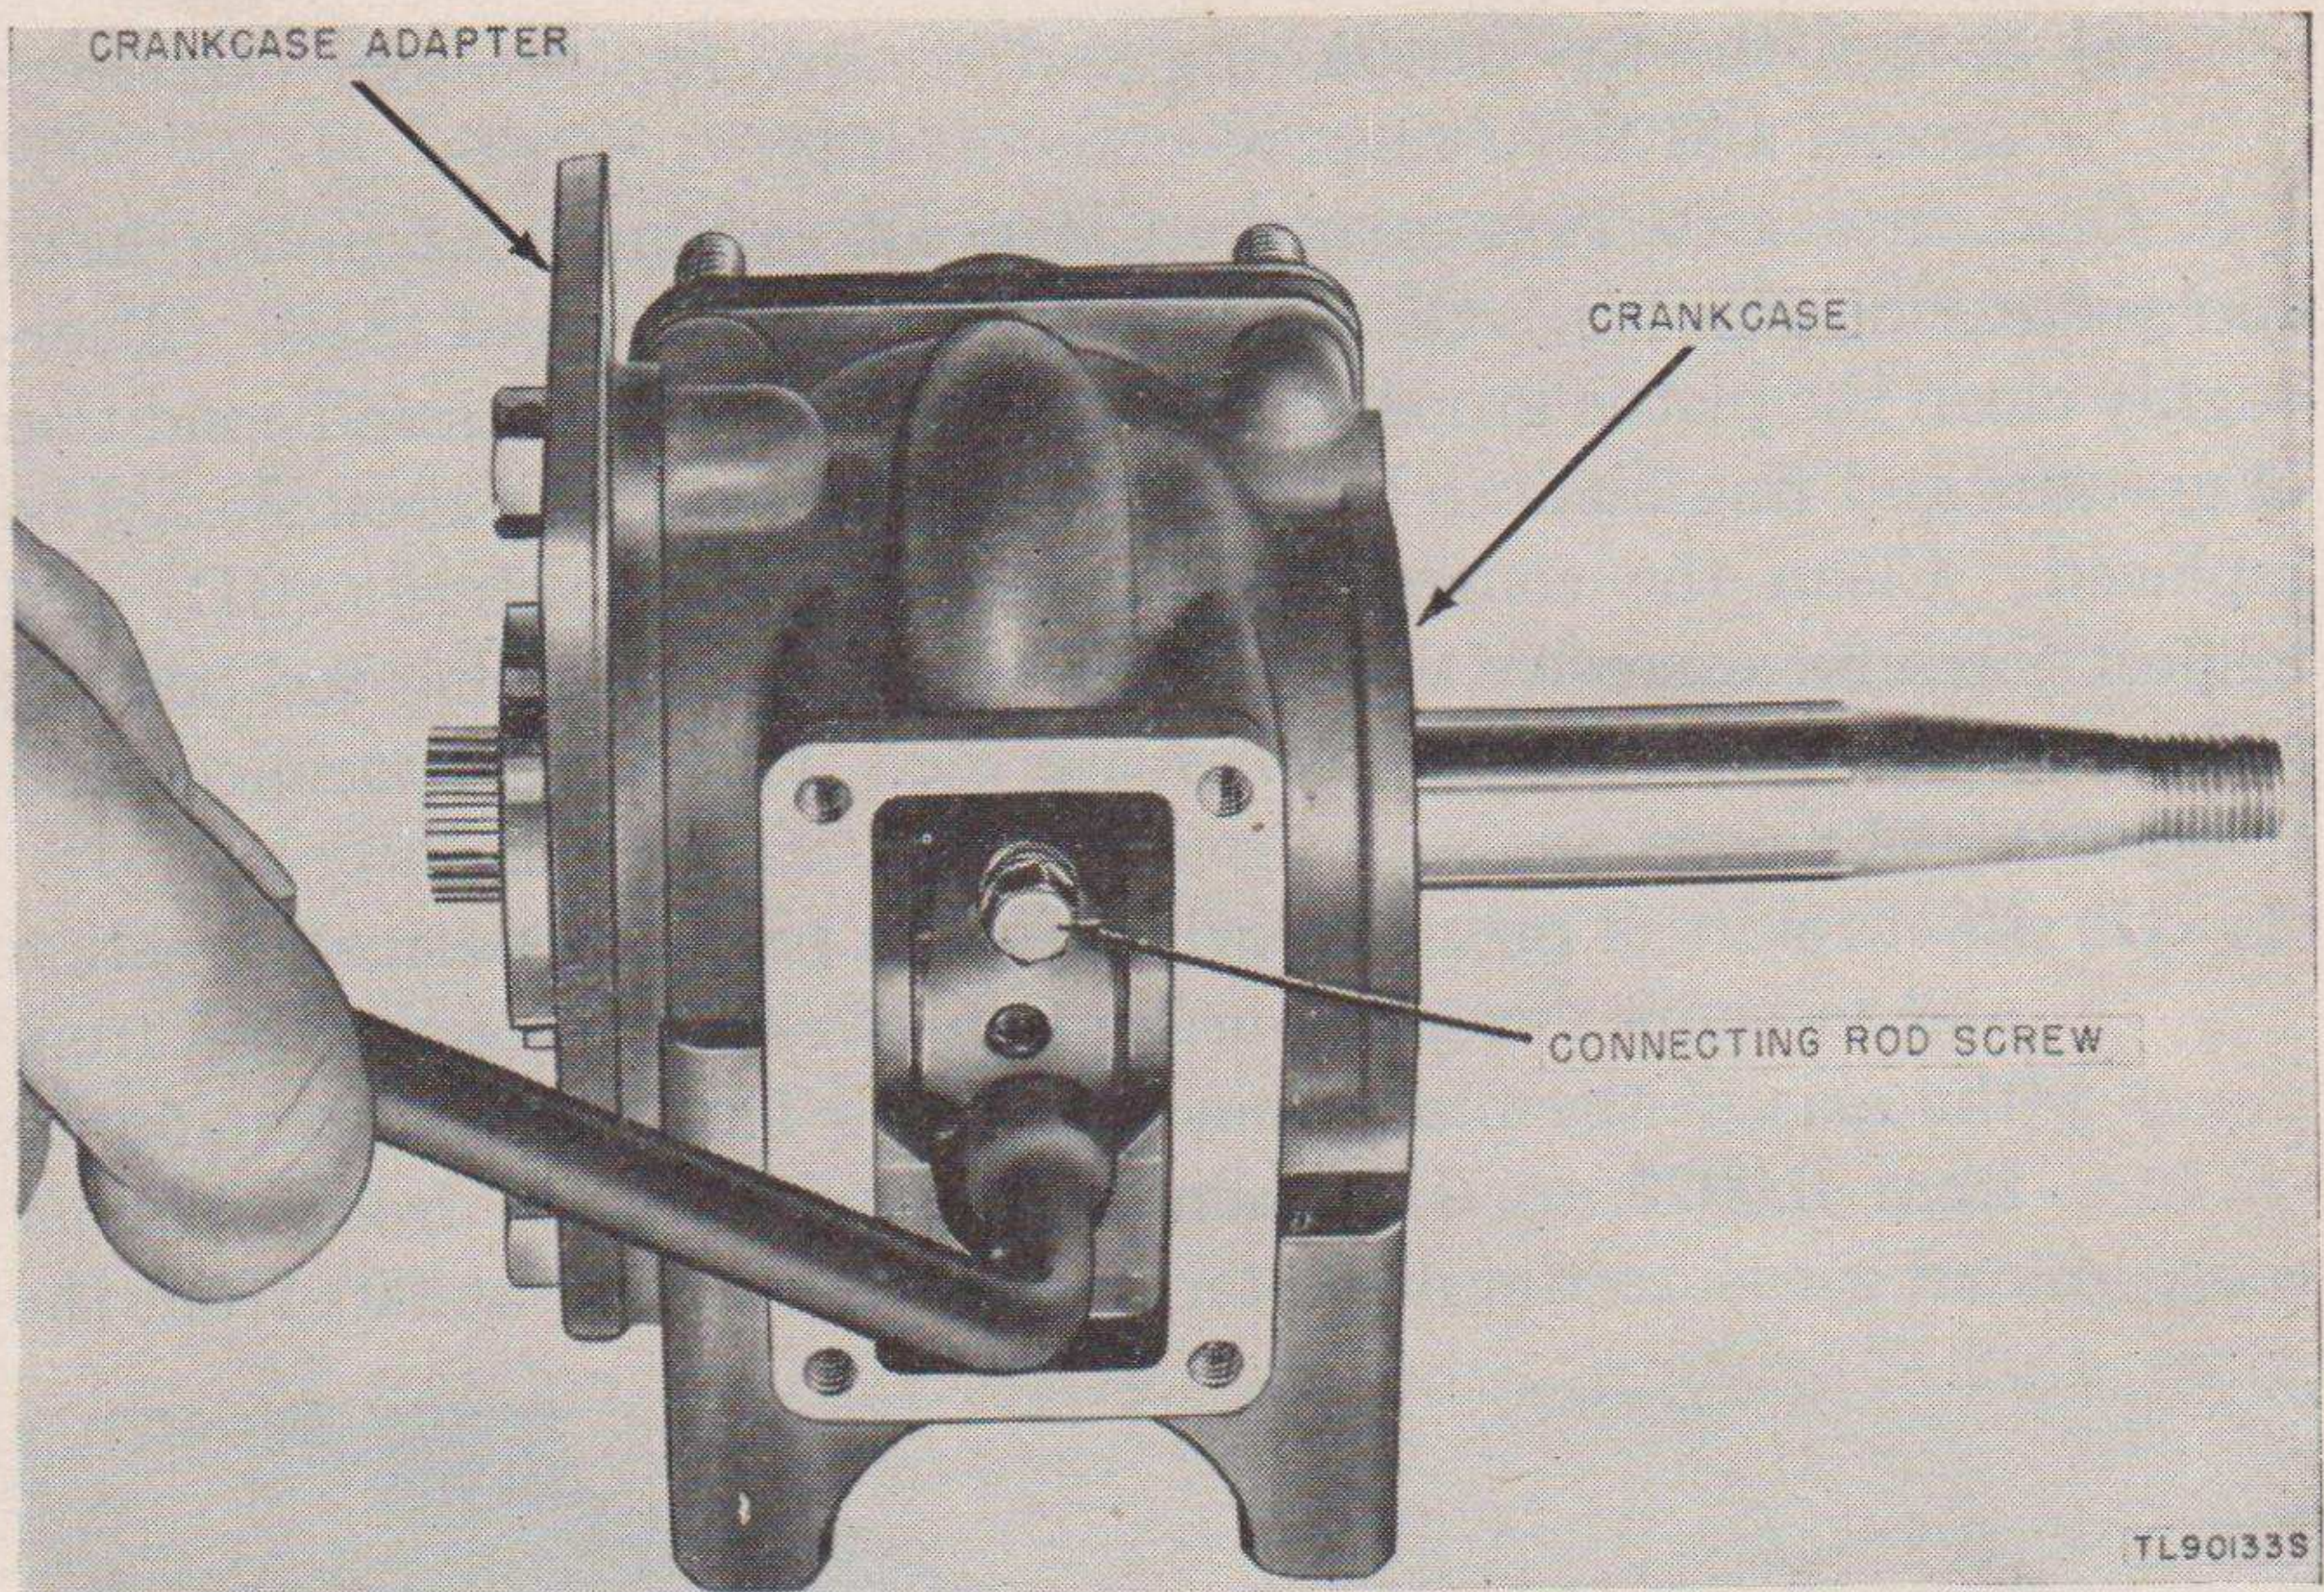

Figure 35. Removing connecting rod screws.
- (6) Working through the opening in the crankcase where carburetor has been removed, unscrew the two capscrews and lockwashers that hold connecting rod cap to the connecting rod, and remove cap (fig. 35). Push connecting rod and piston up through crankcase.
- (7) To remove cotter pin from piston, turn the pin 90° and straighten out the bulge, using hammer and punch. Then turn the pin